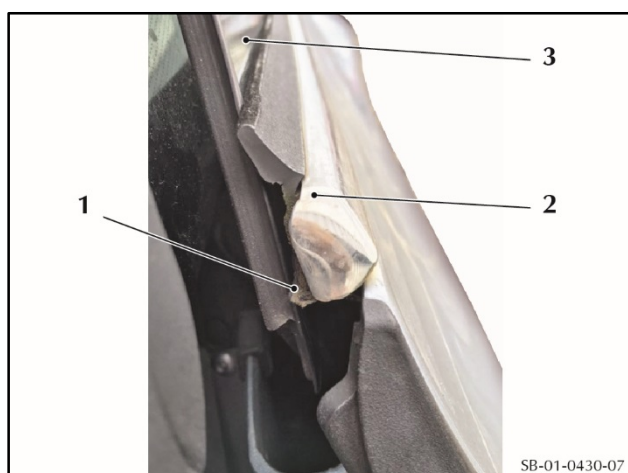

Figure 7
9. Look at the end of the outer waist finisher towards the rear of the vehicle. The seal (1) must look the same as shown in Figure 7.